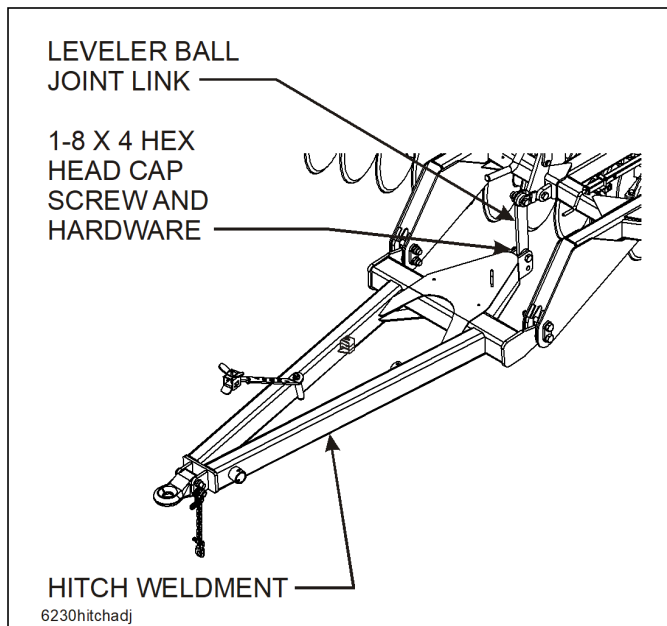

Figure 4-10: Hitch Adjustment
4. To adjust the hitch (See Figure 4-10.):